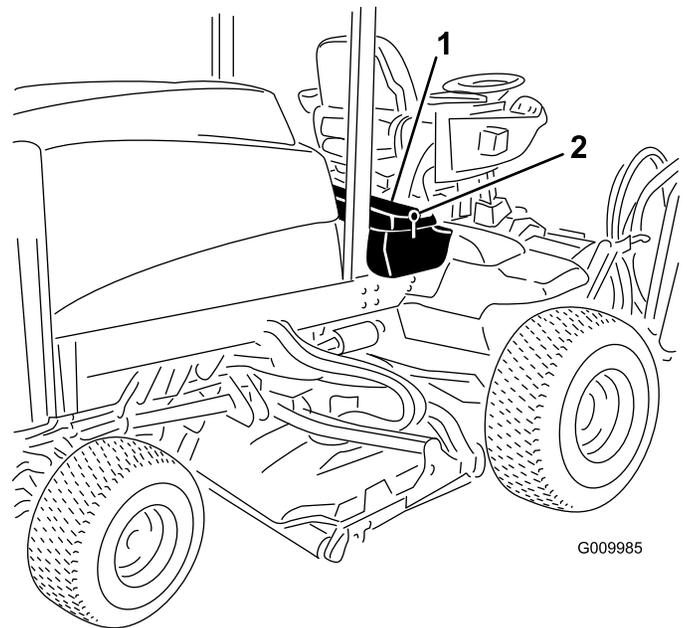

Figure 60
1. Unlatch and raise the operator's console panel (Figure 60).